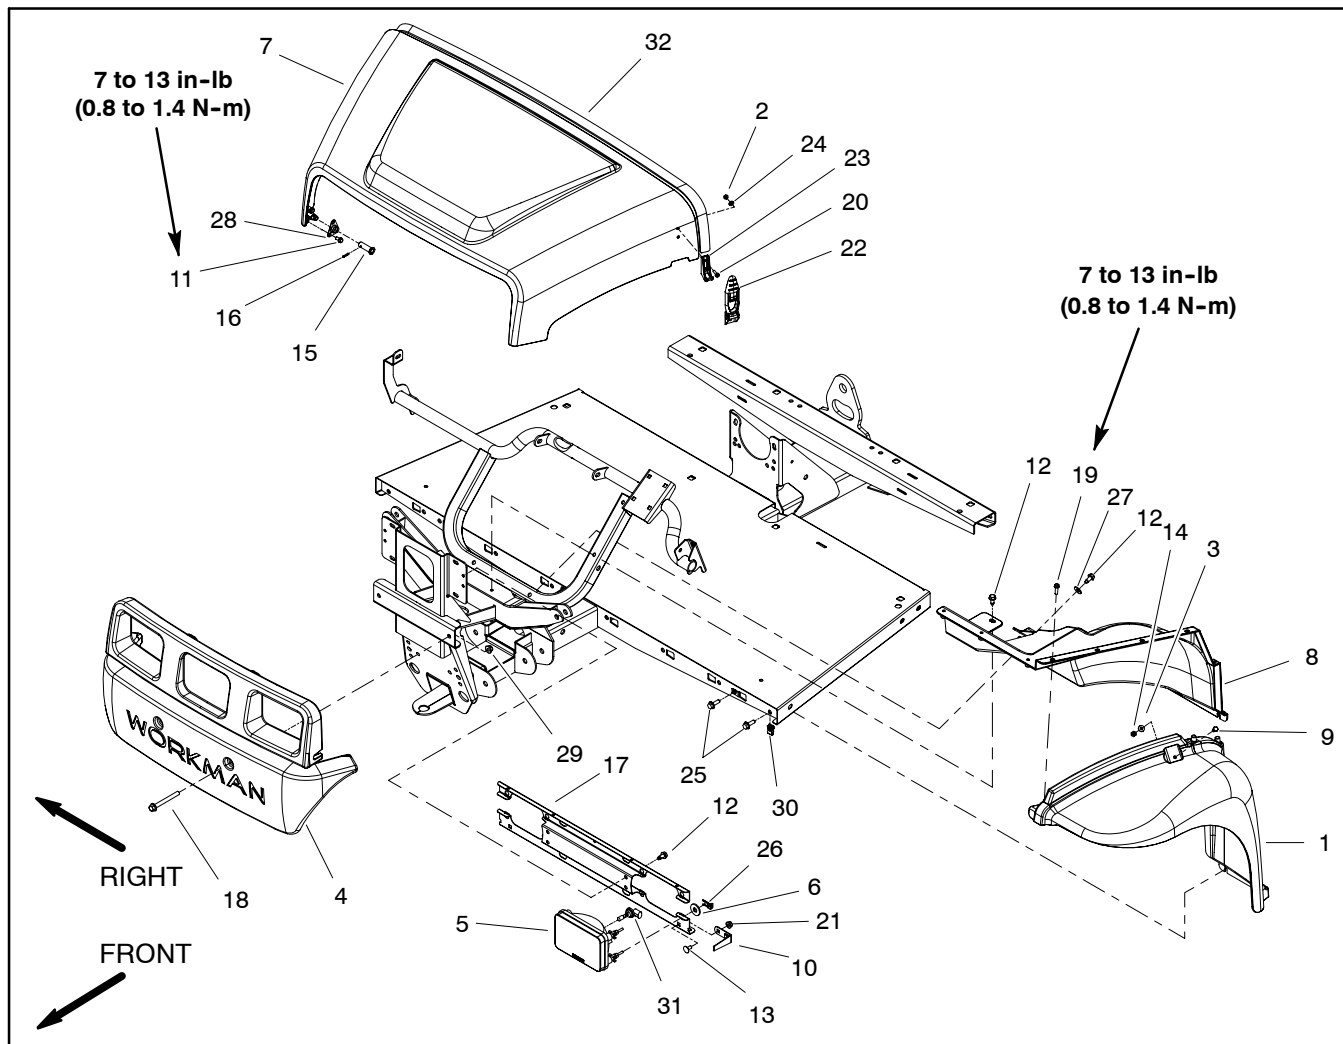

Figure 13
Removal (Fig. 13)
3. Remove hood using Figure 13 as a guide.
Installation (Fig. 13)
1. Install hood using Figure 13 as a guide. During assembly, use fastener torque specifications that are identified in Figure 13.